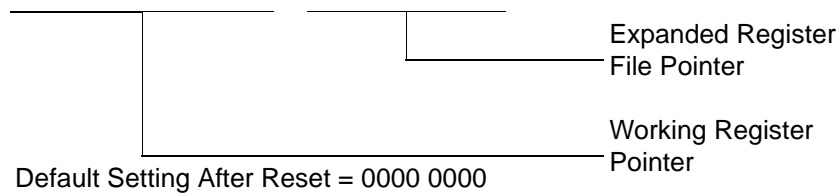

### Figure 15. Expanded Register File Architecture
**Example: Z8 GP: (See Figure 15 on page 28)**